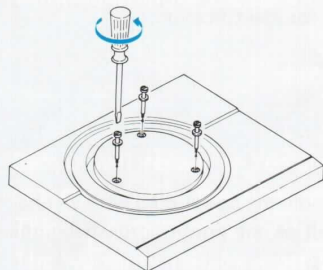

Fig. 2
- a. Carefully unpack the unit and other parts. Remove the dust cover and all packing material from around the turntable. Be sure to remove three shipping screws as shown in Fig. 2.